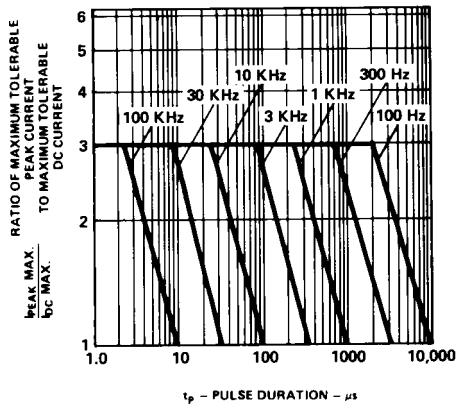

Figure 5. Maximum Tolerable Peak Current vs. Pulse Duration ($I_{DC\ MAX}$ as per MAX Ratings).
1. See Figure 5 (Red), 10 (Yellow), or 15 (Green) to establish pulsed operating conditions.